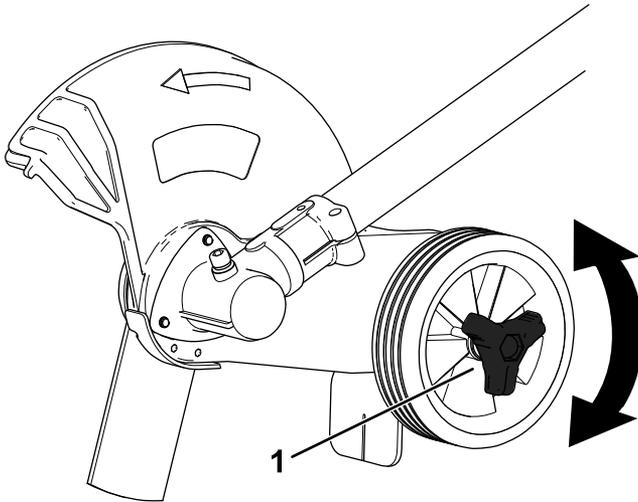

Figure 8
2. Loosen the knob on the wheel and move it up or down in the track to increase or decrease the depth (Figure 8).